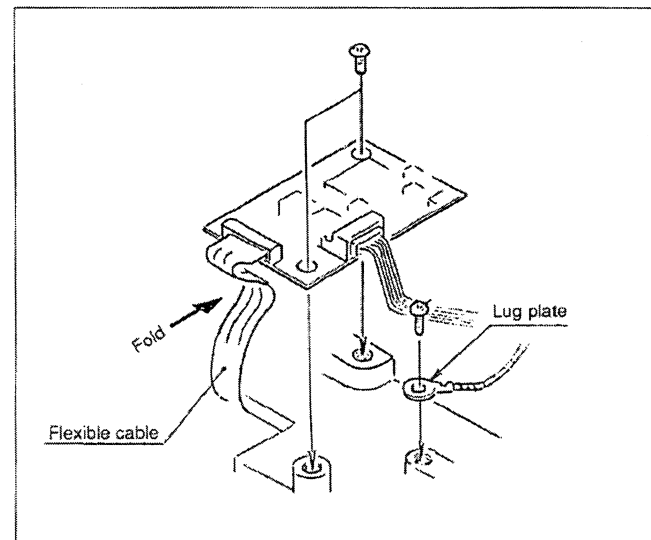

Fig. 22
3. Secure the preamplifier to the slider using the two screws. Fold the flexible cable underneath the preamplifier (Fig.22)